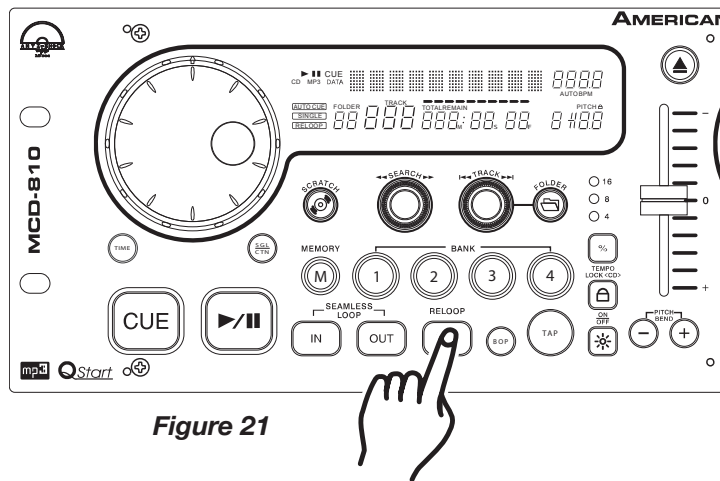

Figure 21
Please Note: Only the end point of the loop may be edited. You may make your loop shorter or longer. Before you can edit your seamless loop you obviously must first have created a seamless loop to edit. If you haven't created a SEAMLESS LOOP, follow the instructions in step 9 to create a loop. If a SEAMLESS LOOP has already been created, press the **RELOOP BUTTON** (19) to activate your SEAMLESS LOOP (Figure 21) if it is not already activated. If the loop is located in one of the **BANK BUTTONS** (7) press the desired **BANK BUTTON** to activate your loop. To edit your seamless loop's ending point:
REPLAY LOOP - The **RELOOP** (19) function allows you to return to your stored loop at any time. The **IN BUTTON** (21) and **OUT BUTTON** (20) L.E.D.s will indicate a loop is stored in memory, and may be played at any time. To replay the loop, press the **RELOOP BUTTON** (19). The **IN BUTTON** (21) and **OUT BUTTON** (20) L.E.D.s will again begin to flash indicating SEAMLESS LOOP mode has been activated (Figure 21) and your stored loop will immediately begin to play.